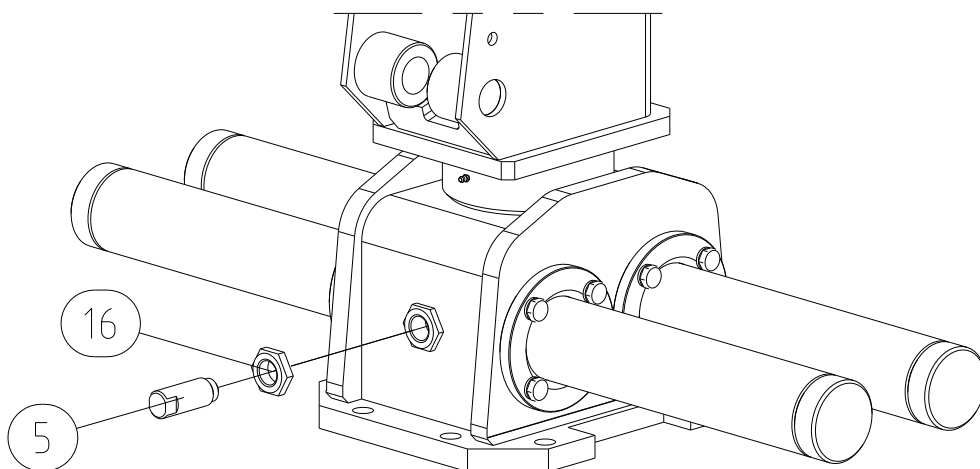

Figure 7. *Adjusting racks of slewing device*
- Release lock nut (pos. 16 fig. 7)
- Screw the bolt (pos. 5, fig. 7) up to contact with the rack and tighten 15 – 30 degrees
- Screw up lock nut (pos. 16 fig. 7)
- Release the lock nut (pos. 16, fig.7)
- Remove the bolt (pos. 5, fig. 7)
- Screw up the lock nut (pos. 16, fig.7).